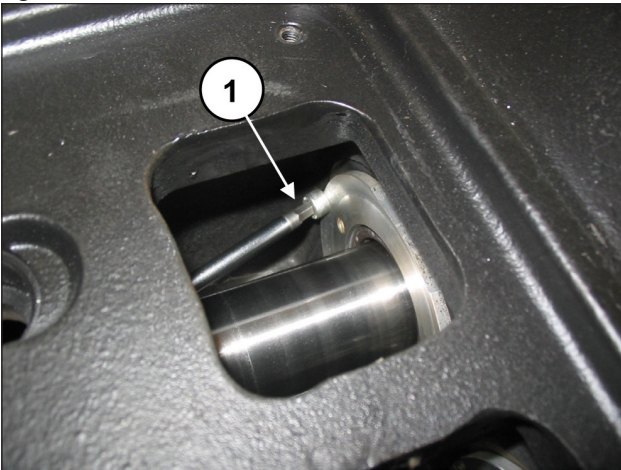

Fig. 157
Unscrew the two screws locking the oil seal cover (pos. ①, Fig. 157).